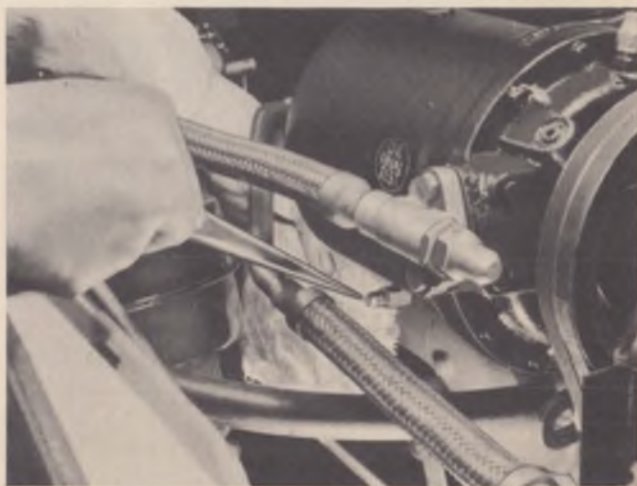

Fig. 13
5. Depress the Schrader core allowing the first surge of oil to escape. See Figure 13. If oil continues to escape with the Freon vapor, the oil level of the compressor is to be considered satisfactory.